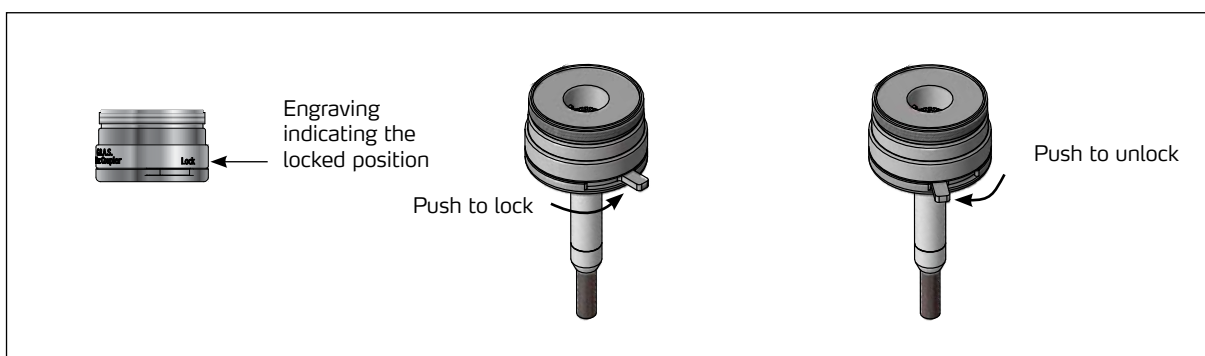

Fig. 7. Locking and unlocking the microphone.
3. Push the locking mechanism lever to its forward position (See Fig. 7).
1. Unlock the locking mechanism by pushing it, as shown in Fig. 7.